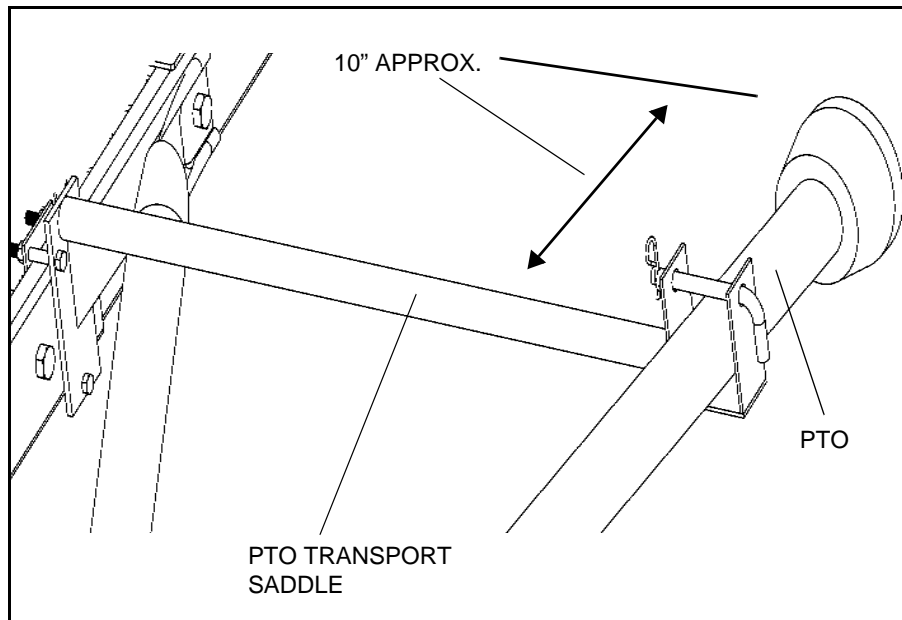

Figure 3.46 Transport Saddle Placement
13. Attach the PTO driveline transport saddle to frame with bracket and three 3/8" x 2-1/2" bolts and locknuts (Figure 3.46). Locate the saddle approximately 10" from end of PTO cover so that bracket does not interfere with any bolts on auger frame.